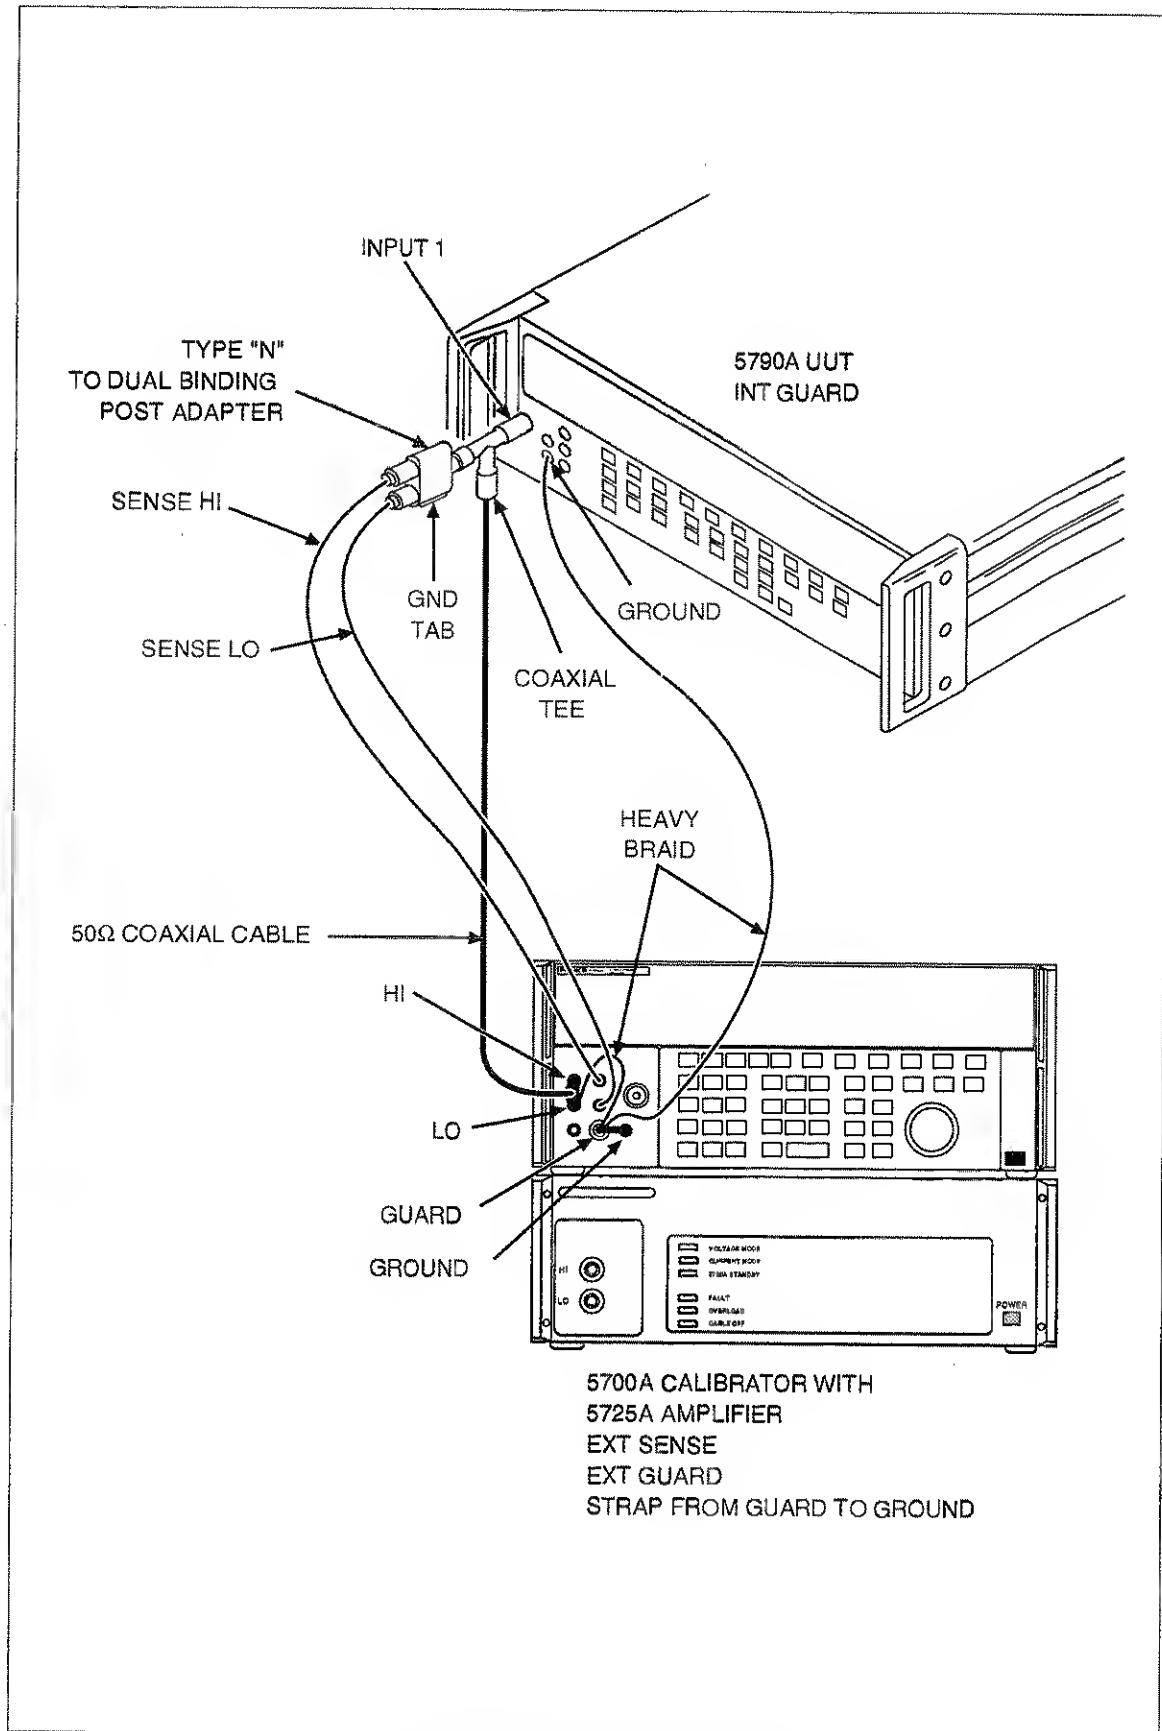

Figure 3-5. 5790A DC Calibration Test Setup
2. Set up the equipment as shown in Figure 3-5. A shielded twisted pair is recommended for the 5700A SENSE leads.